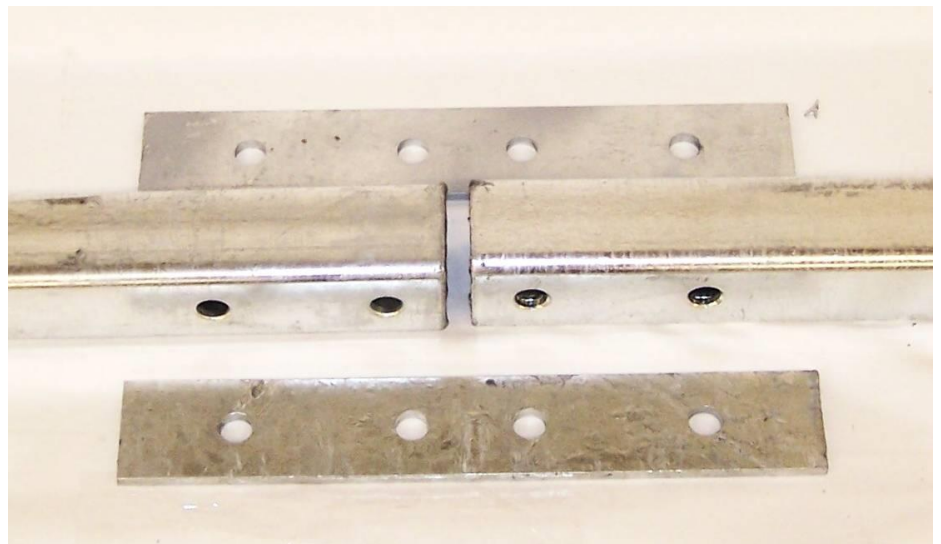

Figure 1
1. Place the Main Arms end to end with the bolt holes horizontal. Place the side plates on each side of the Main Arms (Figure 1).